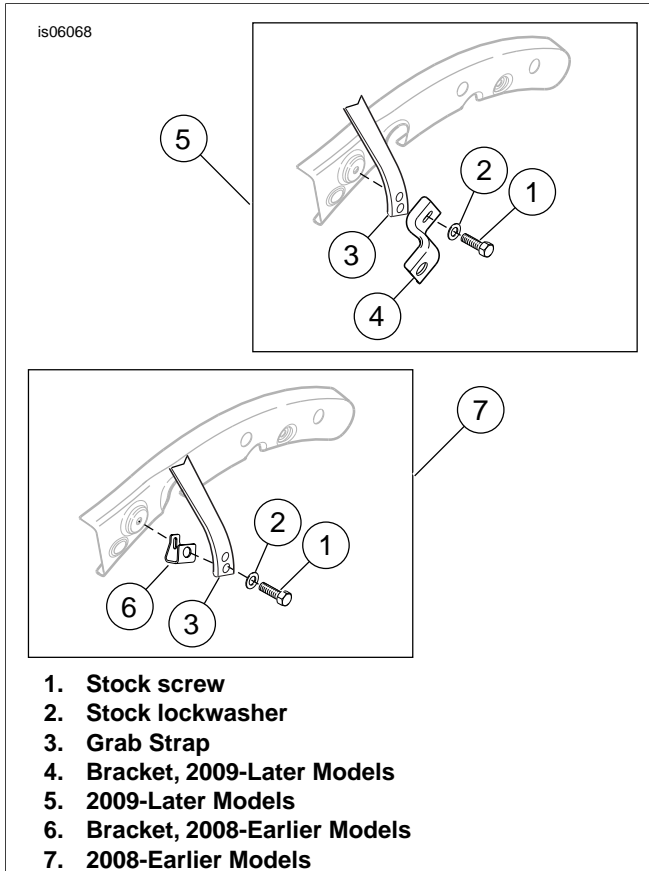

Figure 2. Grab Strap and Saddlebag Front Mounting Bracket
3. See Figure 2. Remove the screw (1) and lockwashers (2) securing the grab strap (3) to the bracket (4 or 6). Save the hardware for installation.